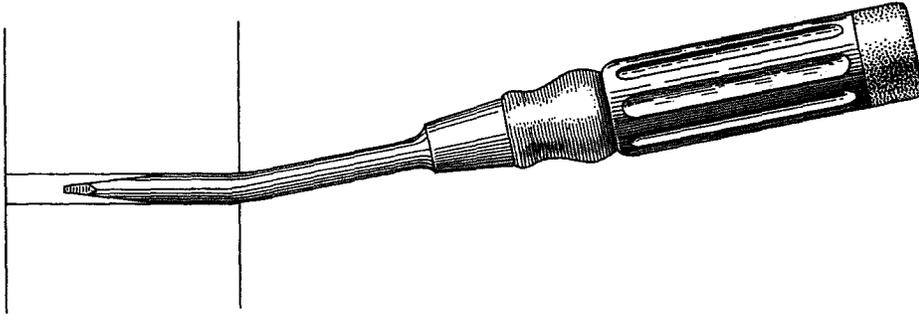

Fig. 4
5.05 To straighten a bent shank and blade, place the shank of the screwdriver in a vise in a horizontal position, with the point where the bend starts just outside of the jaws of the vise and with the bend parallel to the top of the workbench. Apply pressure at the handle or shank in a direction that will tend to straighten out the bent portion. If the bent portion is such that one operation does not entirely straighten the shank, readjust the screwdriver in the vise as the portion nearest the vise becomes straight. Continue in this manner until the entire shank is straight (see Fig. 4).